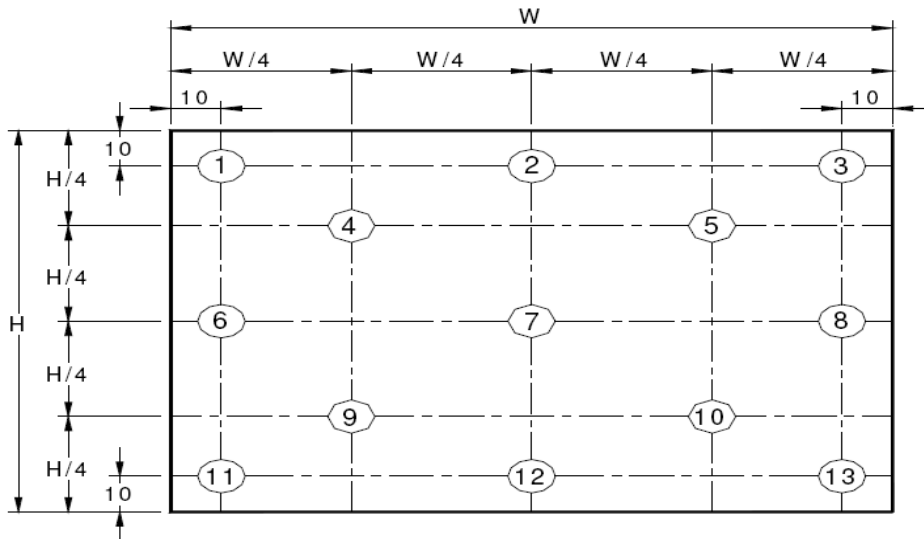

Figure 9. Uniformity Measurement Locations (13 points)
4. The White luminance uniformity on LCD surface is then expressed as : $\Delta Y = \text{Minimum Luminance of 5(or 13) points} / \text{Maximum Luminance of 5(or 13) points}$. (see Figure 8 and Figure 9).
The White luminance uniformity on LCD surface is then expressed as : $\Delta Y5$ = Minimum Luminance of five points / Maximum Luminance of five points (see Figure 8) , $\Delta Y13$ = Minimum Luminance of 13 points / Maximum Luminance of 13 points (see Figure 9).